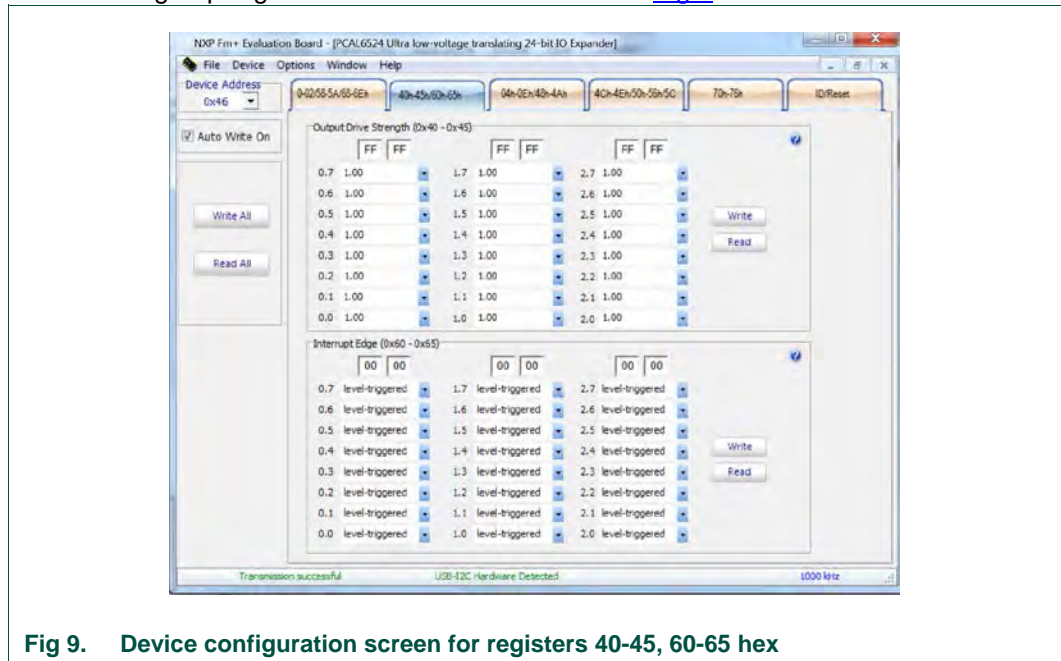

Fig 9. Device configuration screen for registers 40-45, 60-65 hex
3. Second group registers read or write are shown in Fig 9.